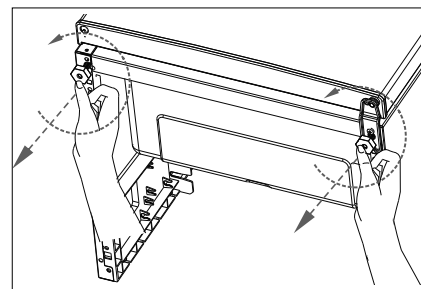

Fig. 1
- ▶ Turn the temperature control (1) briefly past position 1 to position ●. You will hear a click. The appliance switches off. Pull the mains plug (8) out of the mains socket.
- ▶ Remove the drawers (9) and the glass shelves (2/3) as described in the following section.
- ▶ Remove both appliance feet (7) by turning anti-clockwise (Fig. 1).
- ▶ Keep the freezer door (4) closed.